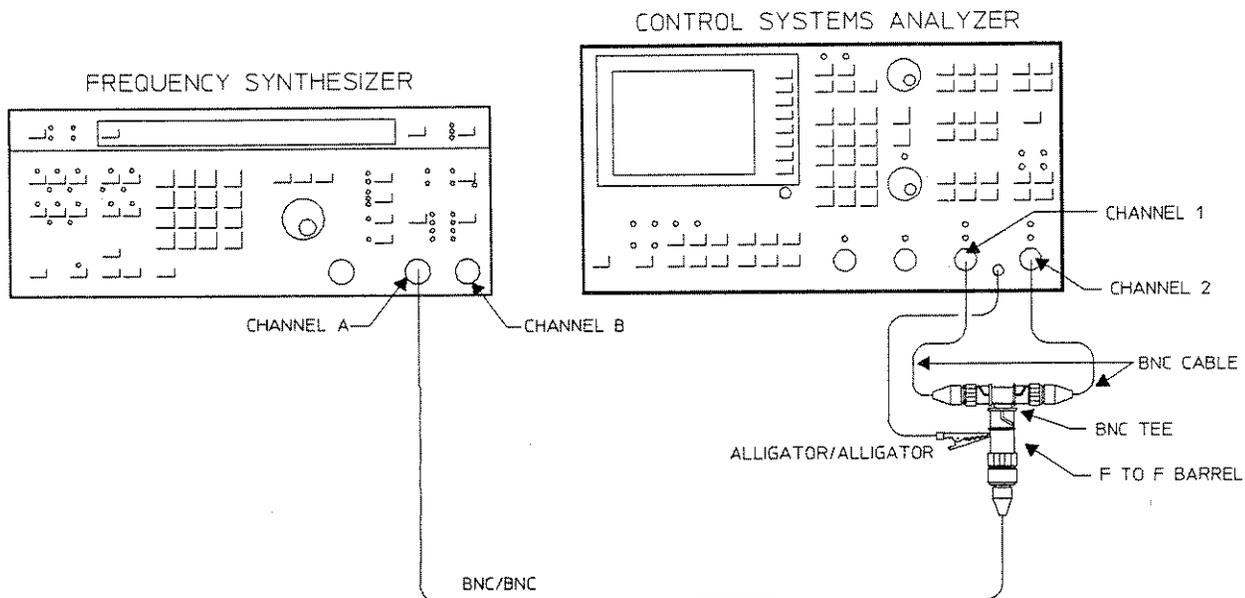

Figure 3-7. Common Mode Rejection Setup #1
1. Connect the test instruments as shown in Figure 3-7.